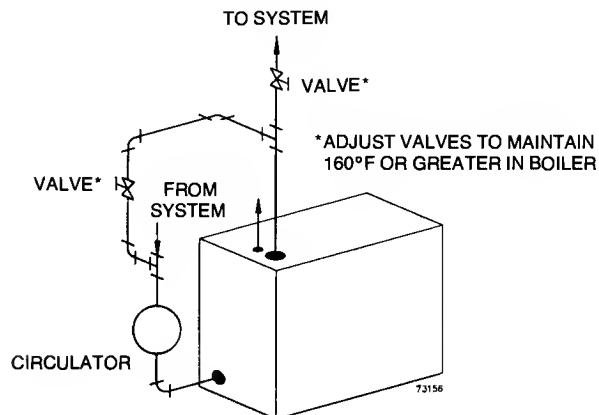

FIGURE 15
2. To protect boiler from condensation formed by low water temperature returned from large water content converted gravity systems, etc., see Figure 15.